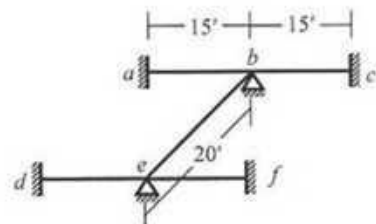

Fig. 4
4. For the grid loaded as shown in *Fig. 4*, use the stiffness method to calculate the rotations at joint C [Given,  $EI = 40 \times 10^3 \text{ k-ft}^2$ ,  $GJ = 30 \times 10^3 \text{ k-ft}^2$ ].
4. Formulate the stiffness matrix of grid *abcdef* shown in Fig. 4